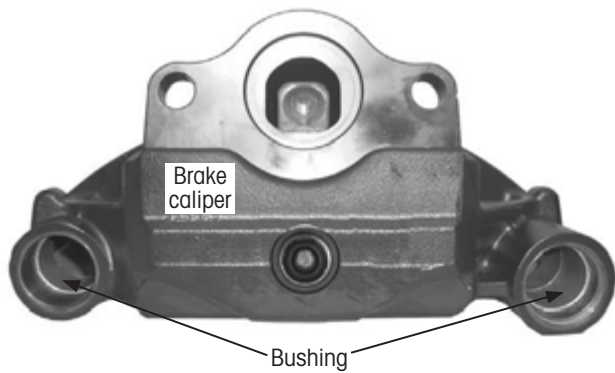

Figure 53: Caliper rear view
3. **Place** the brake caliper on a firm base for pressing out the bushings (Figure 53). The back of the brake caliper must face upwards.